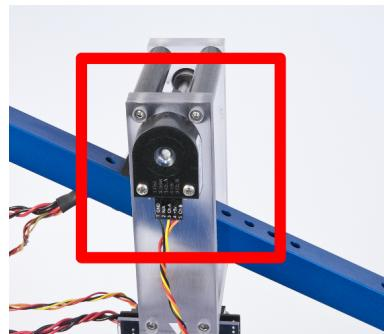

Figure 3.4: 3 DOF Helicopter encoder connection.
- Connect the four color encoder cable from the pedestal circuit board to the elevation encoder on the 3 DOF Helicopter body . Make sure that the ground pin on the encoder matches the ground terminal of the connector as shown in Figure 3.4.